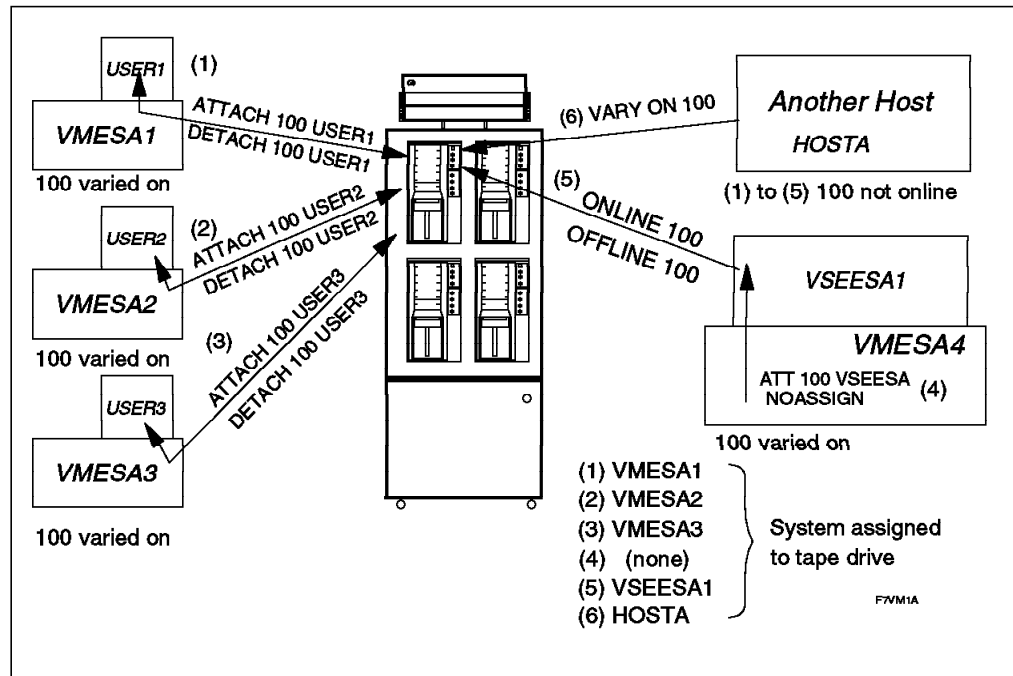

Figure 61. VM/ESA and Other Systems Sharing a Tape Drive
In this section, when we use the term *VM/ESA user* we exclude a guest operating system of VM. We refer to a guest operating system as a *VM/ESA guest*. Refer to Figure 61 on page 133 as you read the following explanation.
Tape drives can be shared serially among multiple VM/ESA users on multiple VM/ESA systems without requiring operator intervention, because the CP commands, ATTACH and DETACH, that cause the tape drive to be reserved and released can be issued from within a program. These CP commands normally issue the hardware channel command words (CCWs), ASSIGN and NOASSIGN, to a 3480, 3490, 3490E or 3590 to reserve or release the tape drive to or from the operating system. ATTACH and DETACH are used in events (1), (2) and (3) in Figure 61. The ASSIGN and UNASSIGN CCWs are specific to 3480, 3490, 3490E and 3590 hardware. The ASSIGN CCW places the operating system's identifier in the tape drive hardware and prevents access by any other system.
Once a VM/ESA user has finished using a tape drive, it is usual to release it (using DETACH) such that it is immediately available to the next request from any system connected to it. In Figure 61, after event (1) has completed, the first command to reach the tape drive would assign it. This could be (2), (3), (5), or (6).
If the next operating system trying to access the tape drive is not a VM/ESA user but another operating system (either native or a VM/ESA guest), it makes the tape drive available for its use by using an operator console command or during its IPL. The tape drive is assigned and is then available to jobs running in that operating system only. However, when jobs complete, the tape drive is still assigned by that operating system as no unassign of the tape drive is usually done once the job finishes. In Figure 61, the system VSEESA1 can perform multiple jobs using the tape drive, but it is not until VSEESA1 issues the OFFLINE that the tape drive is available for another system, even if the tape drive is idle.
which a VM/ESA user could use with the NOASSIGN option. This option is typically used when attaching a tape drive to a VM/ESA guest (which allows the VM/ESA guest to issue its own command to reserve the tape drive); it is typically used by a VM/ESA user. We have shown this as event (4) in Figure 61 on page 133. At this point the tape drive is not reserved by any of the systems. Should event (5) not occur, event (6) would reserve the tape drive for HOSTA.